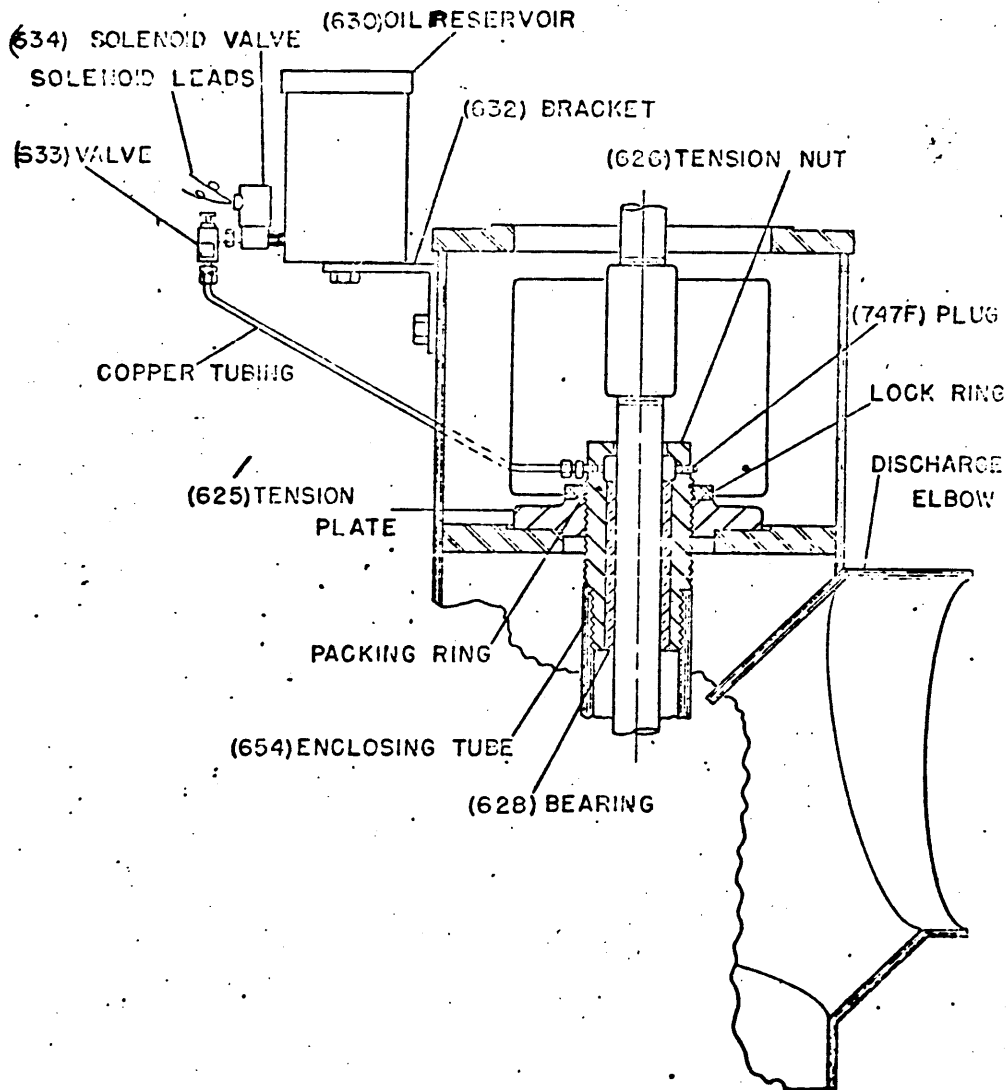

FIGURE 8-1. OIL LUBRICATION SYSTEM
8-1. INSTALLING THE TUBE TENSION NUT. (See figure 8-1.)
B. Connect solenoid valve (634) if provided , and sight feed valve (633) as shown in figure 8-1.
C. Connect copper tubing from valve (633) to nearest opening in the tension nut. Plug opening on opposite side of tension nut. Slope tubing downward, with no kinks, which could cause an air lock.